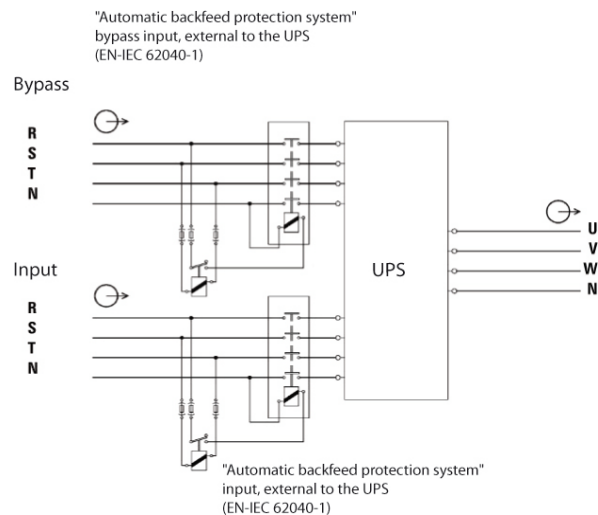

Fig.20. Block diagram for the "Backfeed protection" application, for three phase input / three phase output configuration.
- In accordance with safety standard EN 62040-1, the installation has to be provided with a "Backfeed protection" system. A contactor, for example, will prevent the appearance of voltage or dangerous energy in the input mains during a mains fault (see figure 20).